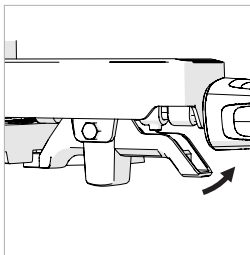

Fig. 43
- Squeeze the positive stop locking lever. (**Fig. 43**)